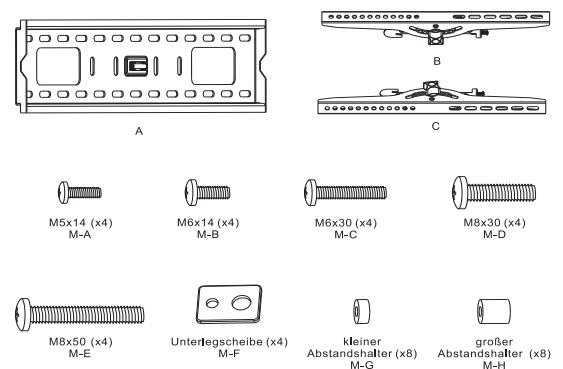

Fig. 7 Scope of delivery screws
- VESA mount / adapter / screws for the TV set (see Fig. 7)